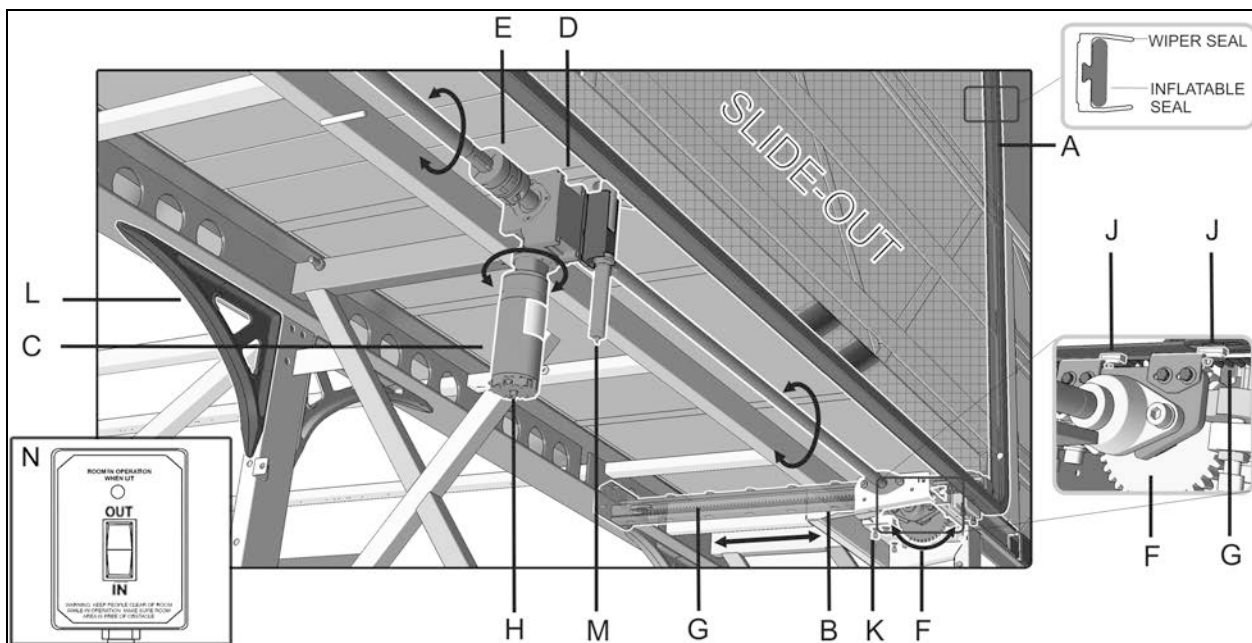

FIGURE 3: TYPICAL MECHANISM OVERVIEW
Each slide-out is moved in and out on rails resting on linear bearings Figure 3, (B). Power comes from one electrical motor (C). It is either oriented vertically or horizontally. The motor drives a right angle speed reducing gearbox (D).